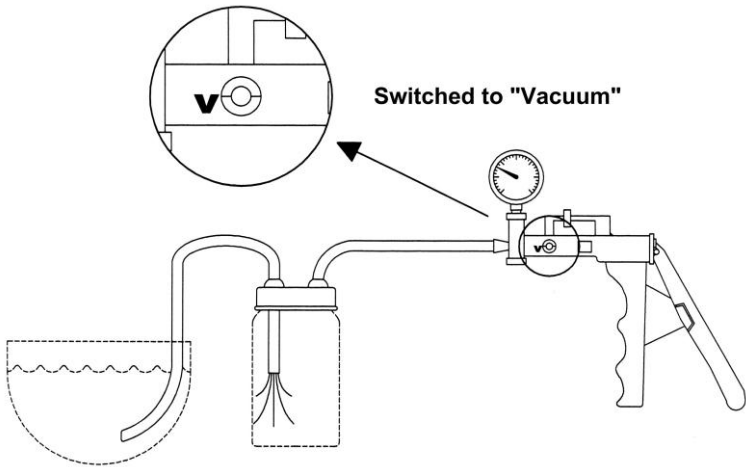

Figure 2-1 - Siphoning Procedure
Since the Geotech Hand Pump was not designed to pump liquids through it, an intermediate receptacle must be used to prevent the liquids from reaching the pump (as shown in Figure 2-1).
2. Connect the piece or  $\frac{1}{4}$ " inside diameter (ID) tubing between the lid outlet marked "PUMP" and the Geotech Hand Pump as shown in figure 2-1.